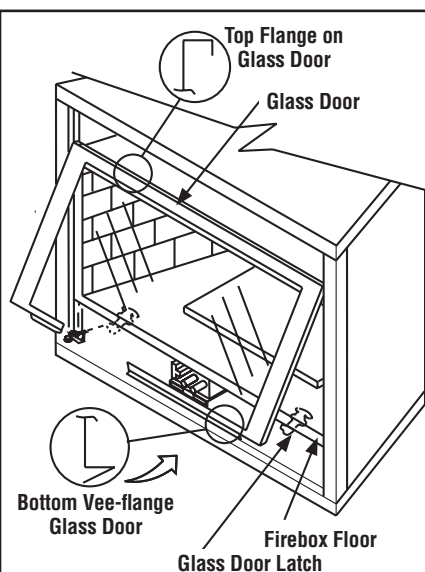

Figure 55 - INSTALLING GLASS DOOR
Removing Glass Enclosure Panels (see *Figure 55*)
Installing Glass Enclosure Panels (see *Figure 55*)
- Position the glass enclosure panel in front of the firebox opening at a 45 degree angle and engage the top flange over the lip at the top of the firebox opening. See *Figure 55*.